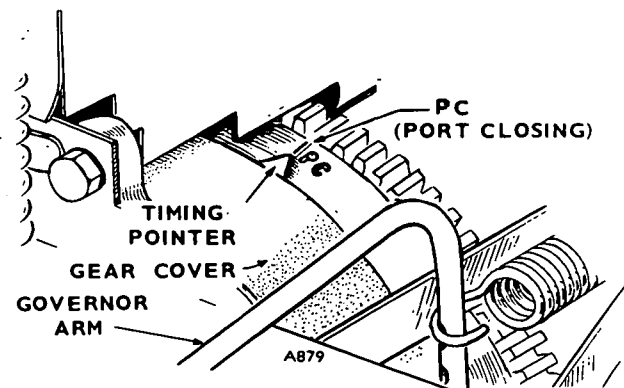

FIGURE 17. PORT CLOSING
**Injection Pump Timing:** Time the injection pump to the engine by using the proper thickness timing button between the pump plunger and tappet. It is timed to the engine at the factory so the port closing for injection occurs at 19° BTC (PC mark in Figure 17).
5. Check the position of the port closing mark in reference to the timing pointer. If the button thickness is correct, the pointer will coincide with the port closing mark. See Figure 17. If the timing pointer is before port closing (early timing) a thinner button is needed. If the timing pointer is between port closing and top center (late timing) a thicker button is needed. To determine the correct button, measure the distance between the port closing mark and the timing pointer. For each .1 inch difference, one button either larger or smaller, depending on whether timing is early or late, is required. A distance of .1 inch (2.5 mm) on the flywheel represents .003 inch (.076 mm) button thickness.
2. Turn the flywheel to the port closing mark (PC) on the front cylinder compression stroke (Figure 17).